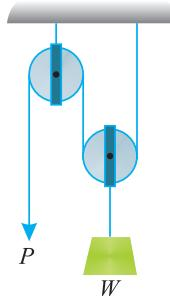

Fig. 16.18.
**Example 16.8.** A weight ( $W$ ) of 5 kN is raised by a system of pulleys as shown in Fig. 16.18